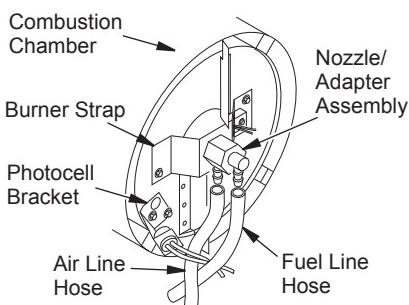
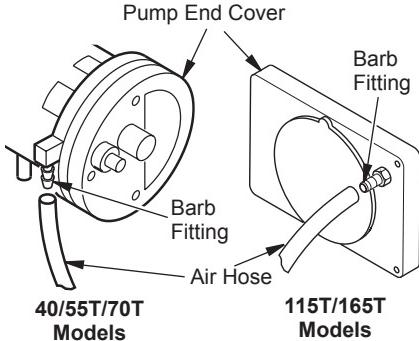

Figure 19 - Removing Air and Fuel Line Hoses, (40/55T/70T Models Only)
Figure 24 - Air Hose to Barb Fitting
14. Replace photocell in photocell bracket. Route wires as shown in Figure 19, 20, or 21.
3. Remove fuel and air line hoses from nozzle assembly (see Figure 19, 20, or 21).
4. Inspect fuel and air line hoses for cracks and/or holes. If fuel line hose is damaged, disconnect from nozzle adapter (see Figure 19, 20, or 21, page 12) and from fuel filter (see *Fuel Filter*, page 11). If air line hose is damaged, disconnect from nozzle adapter (see Figure 19, 20, or 21, page 12) and from barb fitting on pump end cover (see Figure 24).
5. Install new air and/or fuel line. Attach one end of air line hose to barb fitting on pump end cover (see Figure 24) and the other end to nozzle adapter (see Figure 19, 20, or 21, page 12). Attach one end of fuel line hose to fuel filter (see *Fuel Filter*, page 11) and the other end to nozzle adapter (see Figure 19, 20, or 21, page 12).
Note: Route hoses as shown in Figure 19, 20, or 21, page 12, according to model. Hoses are not to touch photocell bracket.